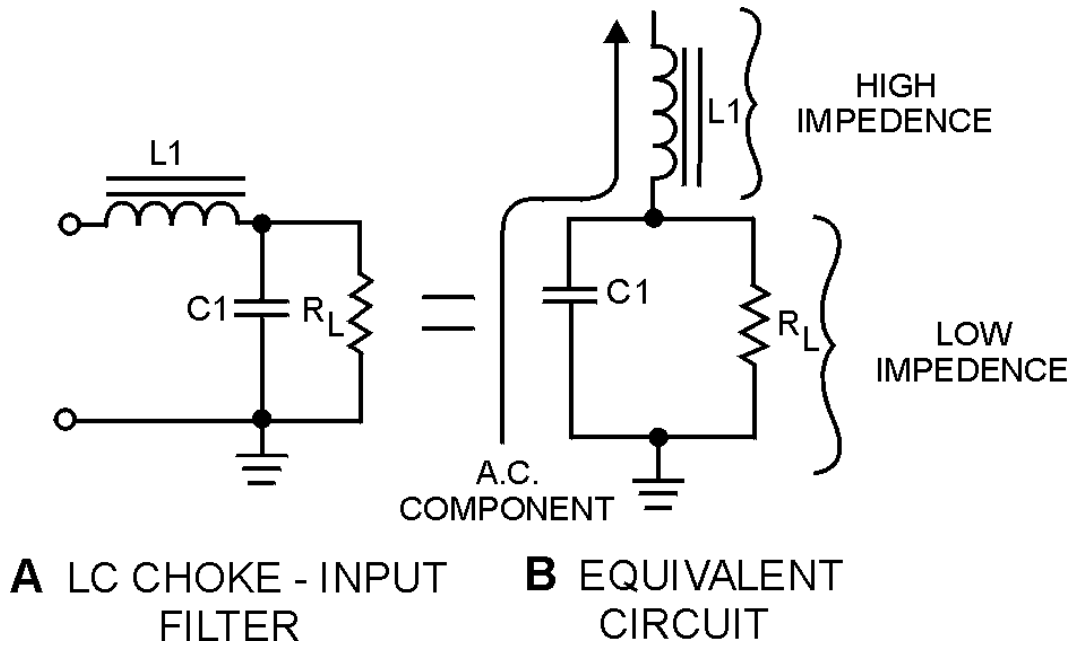

Figure 4-21.—LC choke-input filter.
The inductor (also referred to as the filter choke or coil) serves to maintain the current flow to the filter output (R_L) at a nearly constant level during the charge and discharge periods of the filter capacitor. The inductor (L1) and the capacitor (C1) form a voltage divider for the ac component (ripple) of the applied input voltage. This is shown in views A and B of figure 4-21. As far as the ripple component is concerned, the inductor offers a high impedance (Z) and the capacitor offers a low impedance (view B). As a result, the ripple component (E_r) appearing across the load resistance is greatly attenuated (reduced). The inductance of the filter choke opposes changes in the value of the current flowing through it;